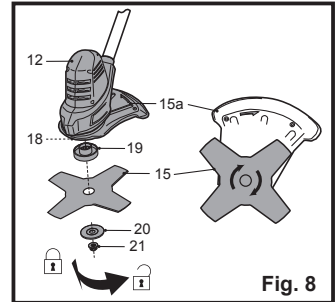

Fig. 8
Brush Cutter Blade (Fig. 8)
- Place the locking washer (20) onto the cutting blade (15).
- Secure the cutting blade (15) with the nut (21) using multi tool (22) (Fig. 8).
- Remove the spindle lock rod (23).